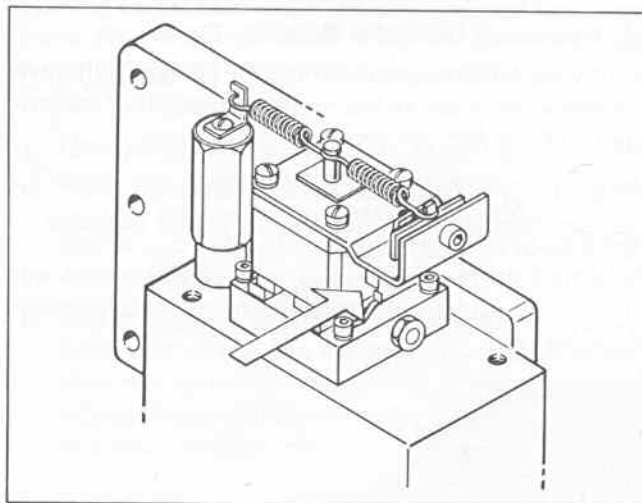

Figure 5. Air Gap Cleaning
- b. Clean air gaps of hydraulic amplifier assembly (11) by blowing clean dry air through air gaps (see Figure 5).